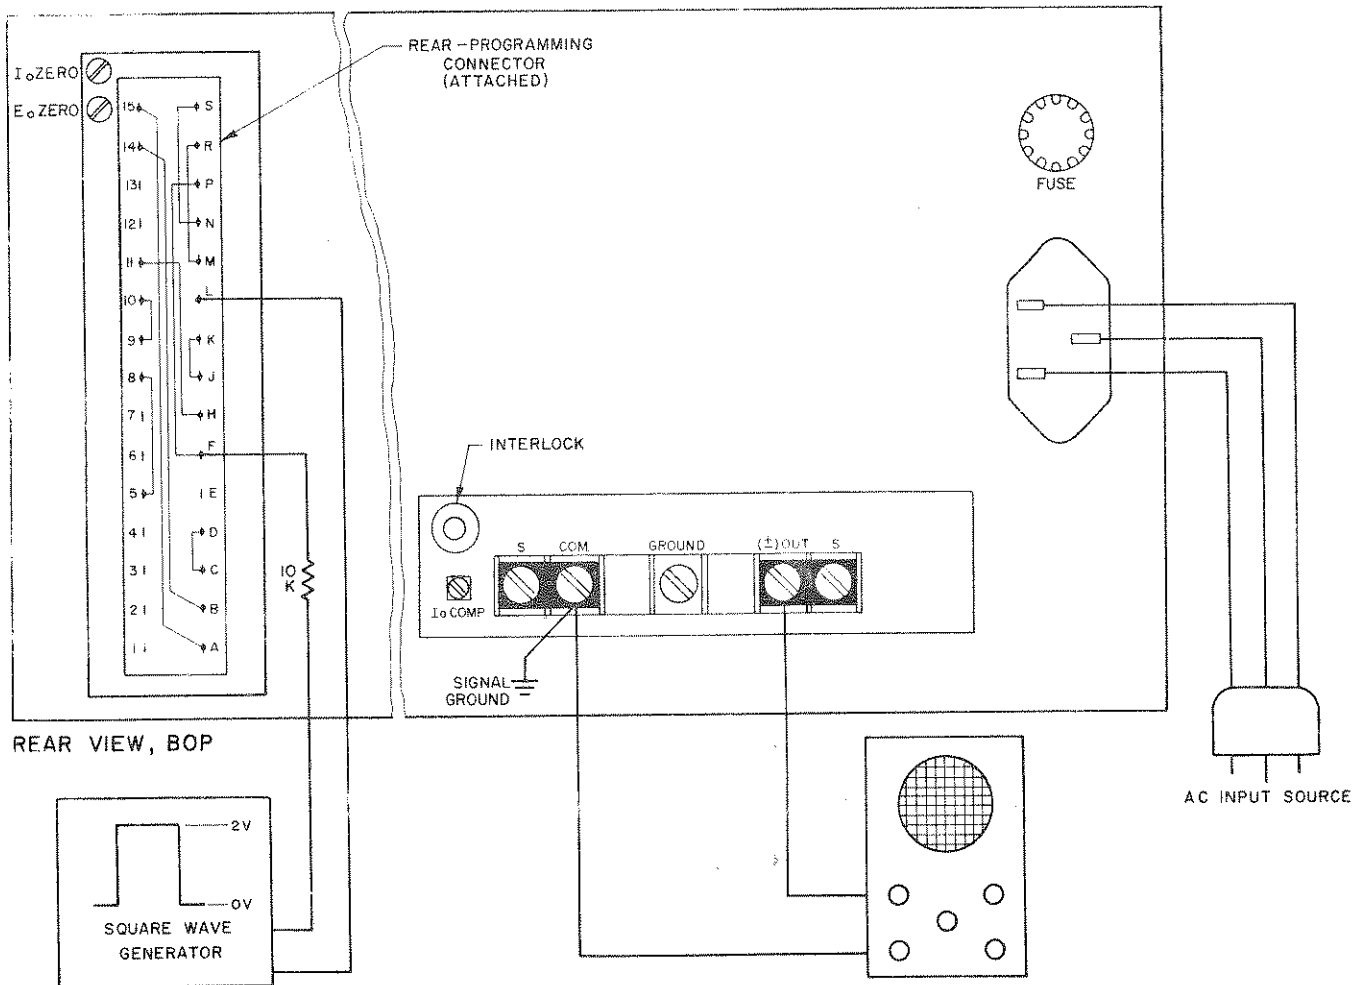

FIG. 5-5 MEASUREMENT OF THE PROGRAMMING TIME CONSTANT.
5-27 PROCEDURE (REFER TO FIG. 5-5)
- 1) Connect the BOP and the external instrumentation as shown in FIG. 5-5. Note: The Signal Generator may be connected (without the 10KΩ resistor) to the BOP front panel E₀ PROGRAM input terminals.